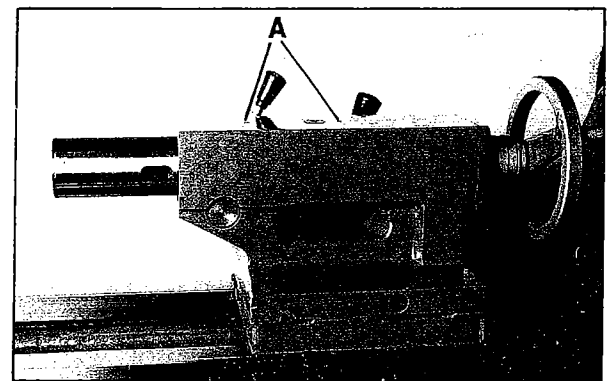

Fig. 8
10. **Tailstock** - lubricate two oil balls (A, Fig.8) on top of tailstock with 30W machine oil once daily.